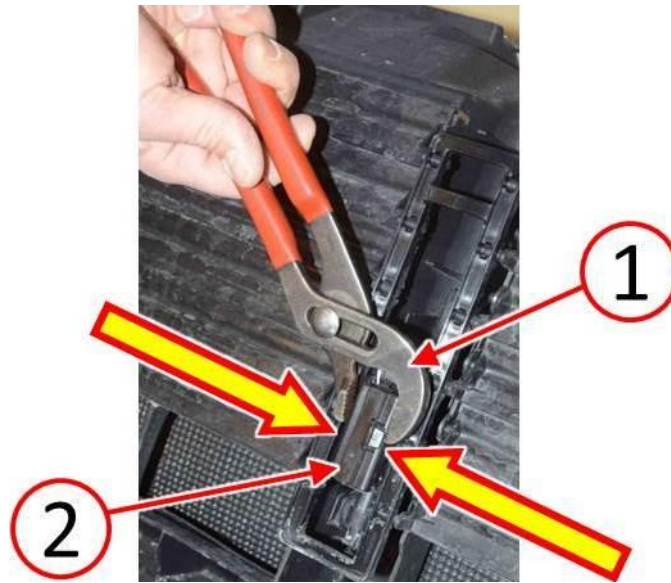

Fig. 5 Engage Actuator Motor Case Housing With Adjustable Pliers
8. Engage the actuator motor case housing retainer by using adjustable pliers to close the housing halves (Fig. 5).